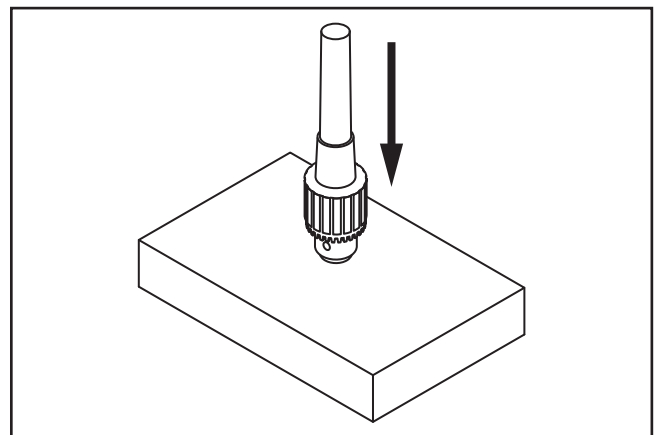

Figure 10. Tapping drill chuck/arbor on block of wood.
4. Hold assembly by arbor and tap chuck onto a block of wood with medium force, as illustrated in **Figure 10**.